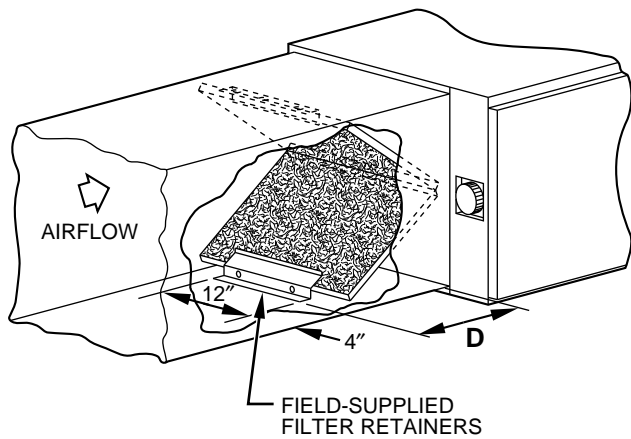
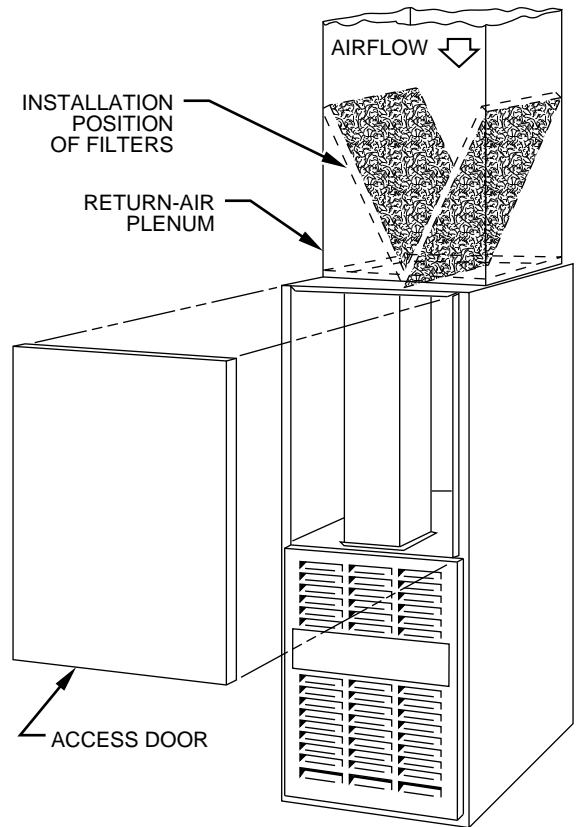

Fig. 8—Horizontal Filter Arrangement
Fig. 9—Downflow Filter Arrangement
3. Install field-supplied filter retainers as indicated in Fig. 8 and Table 4 before connecting return-air duct to furnace.
After the return-air duct has been connected to the furnace, install the field-supplied filters in a V-formation inside the return-air plenum. See Fig. 8 and Table 4 for horizontal applications. Horizontal filter retainers must be field supplied. See Fig. 9 for downflow applications.